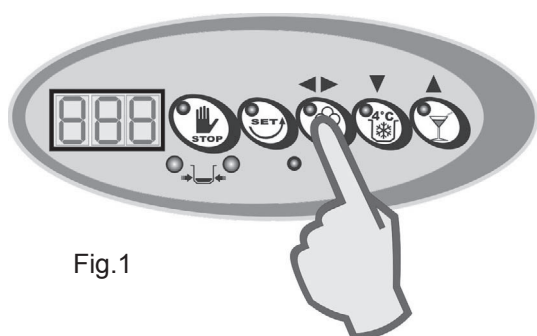

Fig.1
- Press the PRODUCTION key to start the production of soft ice cream (fig.1) or press the FUNZIONE CREATIVE FUNCTION key to start the production of frozen yogurts, sorbets, fruit and cream parfaits, mousses, etc (fig.2).